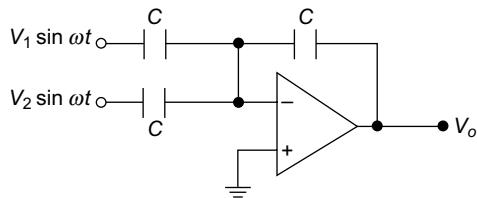

Fig. 5.101
7. Figure 5.101 shows an OP-AMP circuit. The output voltage of OP-AMP is